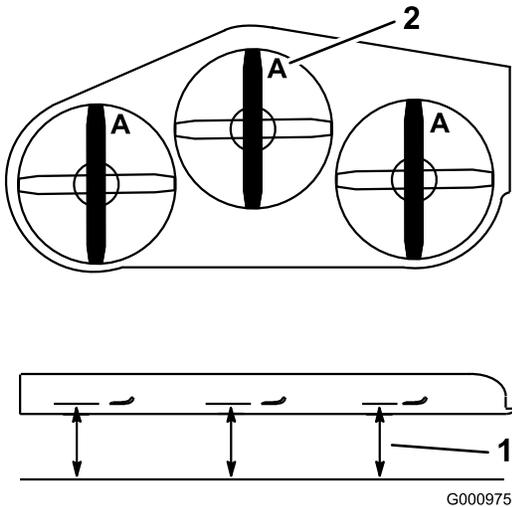

Figure 100
3. Rotate the blades until the ends face forward and backward (Figure 100).
4. Measure from a level surface to the cutting edge, position A, of the blades (Figure 100).